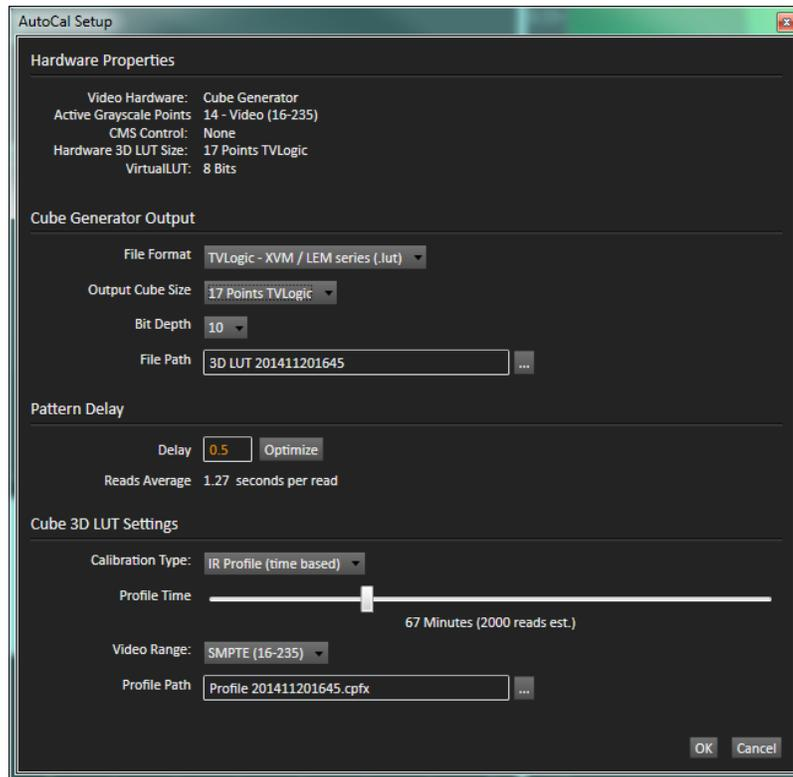

Figure 3. CalMAN AutoCal Setup dialog for 3D LUT creation.
1. On the 3D Cube LUT page, click the *AutoCal* (rotating arrows) button at the right end of the meter action buttons. The *AutoCal Setup* dialog then appears (Figure 3).